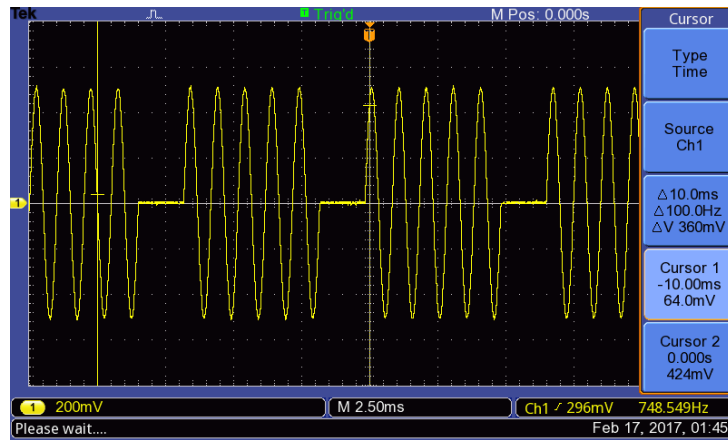

Figure 7: Five complete cycles of a 1kHz sine wave every 6.7 ms (150Hz).
7. To change the rate of the burst press **Shift** -> **ENTER** -> **Down Arrow** -> **Right Arrow x4** -> **Down Arrow**. Type in 150 Hz and observe on the oscilloscope. See Figure 7.